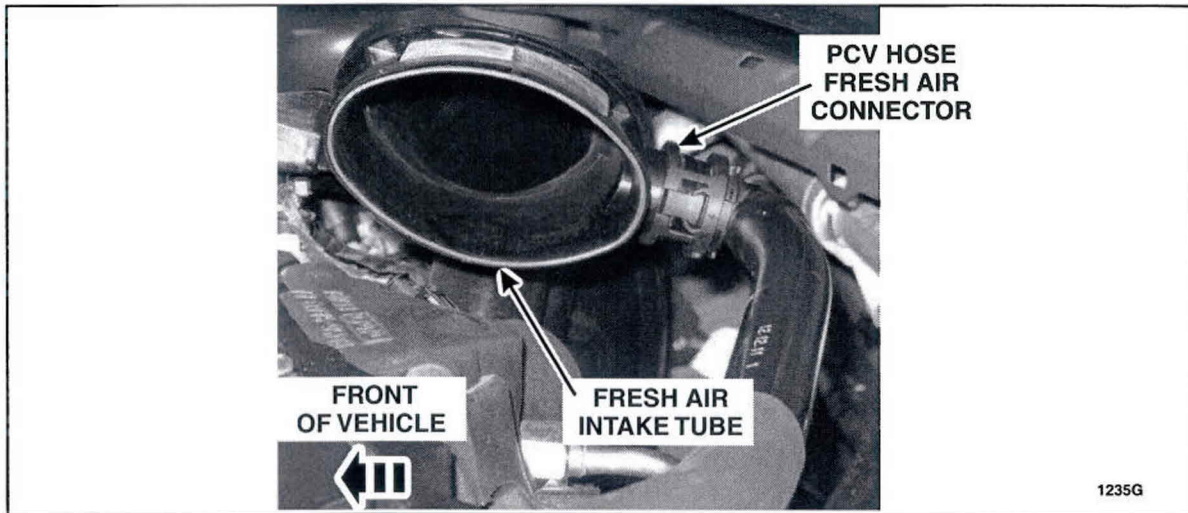

FIGURE 6
1. Inspect the PCV hose fresh air connector for correct installation/seating into the rear of the fresh air intake tube. See Figure 6.
2. Push lightly on the hose toward the rear of the vehicle at the fresh air intake tube connection. See Figure 6.